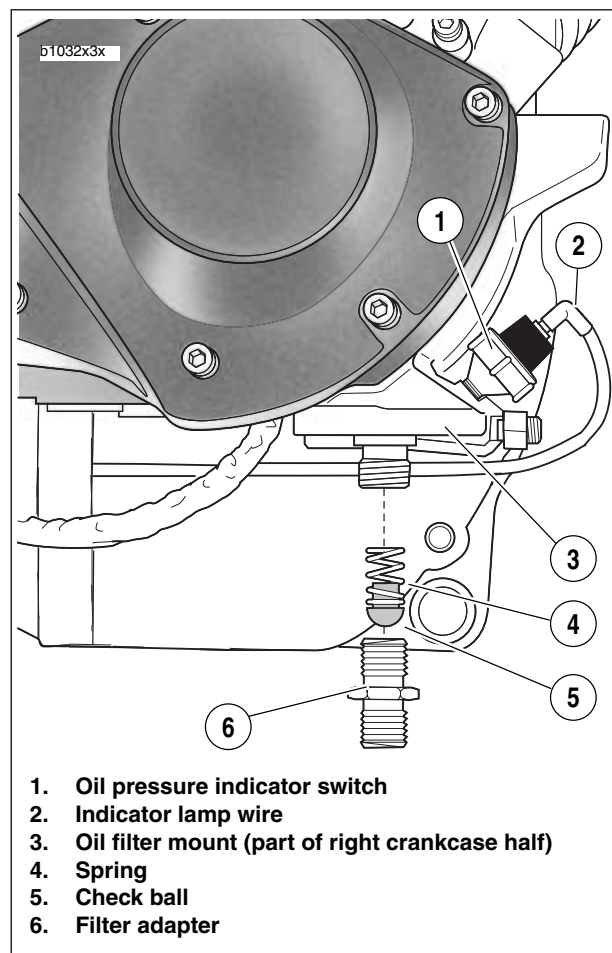

Figure 3-120. Oil Filter Mount Assembly
See Figure 3-120. Oil is pressure-fed from the oil pump to the oil cooler via an external steel line. From the oil cooler, oil flows to the oil filter mount. Oil travels through the filter mount into the filter through the outer filter holes.
3. See Figure 3-120. Remove filter adapter (6) from filter mount (3). Remove check ball (5) and spring (4).
4. Detach indicator lamp wire (2) from oil pressure indicator switch (1). Remove switch using OIL PRESSURE SENDING UNIT WRENCH (Part No. HD-41675).
1. See Figure 3-120. Install oil pressure indicator switch (1) using OIL PRESSURE SENDING UNIT WRENCH (Part No. HD-41675). Tighten to 50-70 **in-lbs** (6-8 Nm).
2. Attach indicator lamp wire (2).